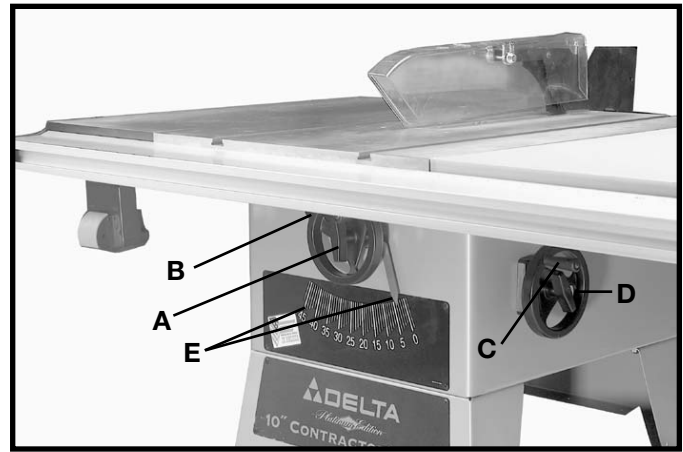

Fig. 98
To raise the saw blade, loosen lock knob (A) Fig. 98, and turn the blade raising handwheel (B) clockwise. When the blade is at the desired height, tighten lock knob (A).
To lower the blade, loosen lock knob (A) Fig. 98, and turn the handwheel (B) counterclockwise. **NOTE:** One full turn of the handwheel will change blade height approximately 1/4 .
To tilt the saw blade for bevel cutting, loosen lock knob (C) Fig. 98, and turn the tilting handwheel (D). When the desired blade angle shown on scale and pointer (E) is obtained, tighten lock knob (C).